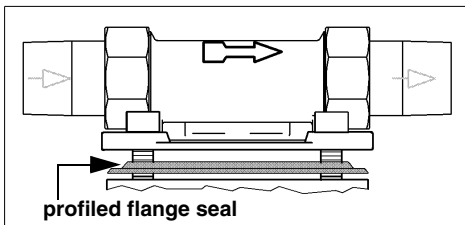

Fig. 10: Built-in rotary flange
- 7 **Only every 4 years:** Remove and replace the profiled flange seal. The profiled side of the seal must be pointing towards the flange (see fig. 10). Failure to do so can lead to leakage and water damage.